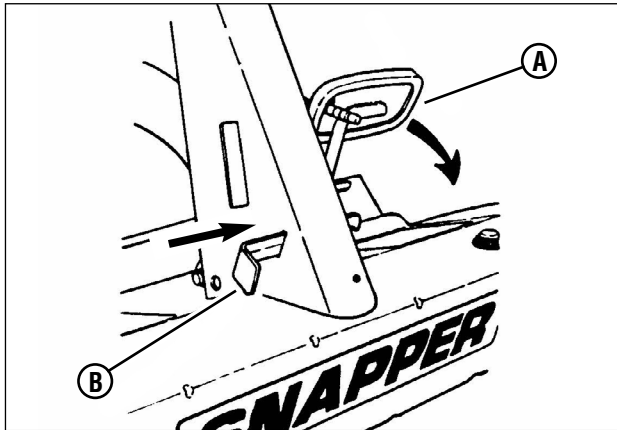

Figure 16: Setting the park brake
1. To set the park brake, press the clutch/brake pedal (A, Figure 16) all the way down, slide the park brake latch (B) all the way in to the engaged position, and release the clutch/brake pedal. A detent in the park brake latch will keep the park brake engaged.